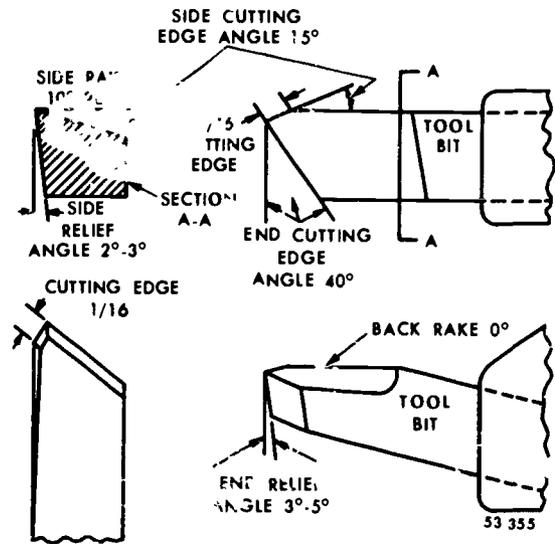
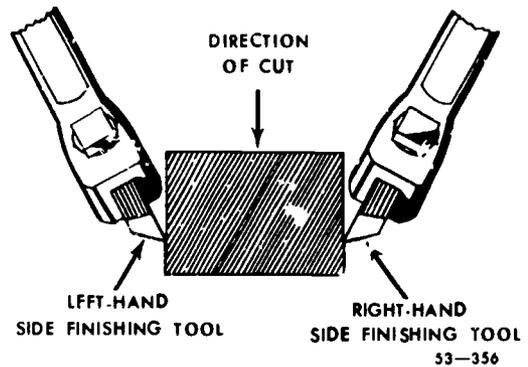
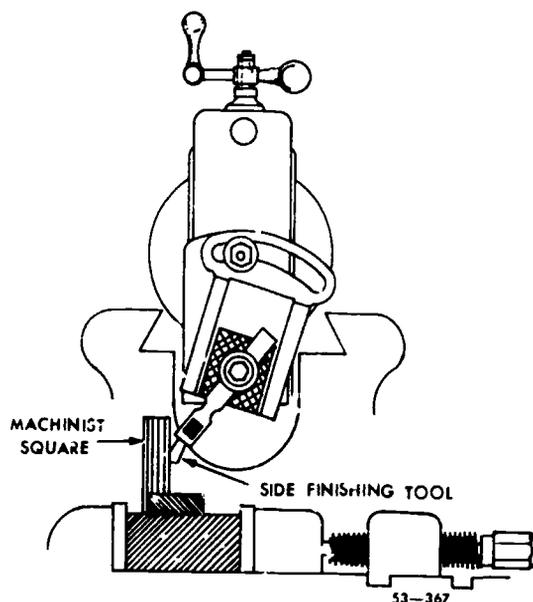

Figure 35. Side finishing tool angles.
Figure 36. Side finishing tools
Figure 47. Aligning cutting edge with a machinist square.
h. Side finishing. The *side-finishing tools*, shown in figure 35, are ground as right-hand and left-hand tools and are used to finish vertical surfaces. You can also use them for cutting or finishing small horizontal shoulders after you have taken a vertical cut. Figure 36 shows how to position right-hand and left-hand side-finishing tools.
4-11. Another method of machining vertical surfaces is to use a side finishing tool. This type of tool is used after the vertical surface has been roughed out with a roundnose tool, leaving material for finishing cuts. The top of the clapper box is swung away from the surface that is to be finished. Then mount a left-hand side finishing tool in a straight toolholder, if you are to finish a left-hand shoulder. The toolholder should be positioned in the toolpost so that the $\frac{1}{16}$ inch portion of the tool's cutting edge, as shown in figure 35, is parallel to the surface to be finished. The best way to position the cutting edge is with a machinist's square, as shown in figure 47. Set the machine to the proper length of stroke. Reduce the CFS to about 30 feet per minute to protect the small cutting edge. With the tip of the tool touching the bottom surface of the corner or shoulder, set the vertical feed dial at zero. NOTE: Omit this step when you use the side-finishing tool to finish the ends of the work. To plane wide, deep grooves, leave 0.005 inch